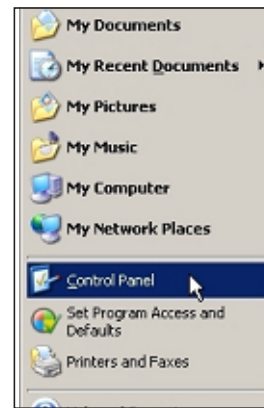

Figure 12: Start Menu – Control Panel
1. From the Start Menu, select the Control Panel, and from there select the System icon (Figure 12 below).